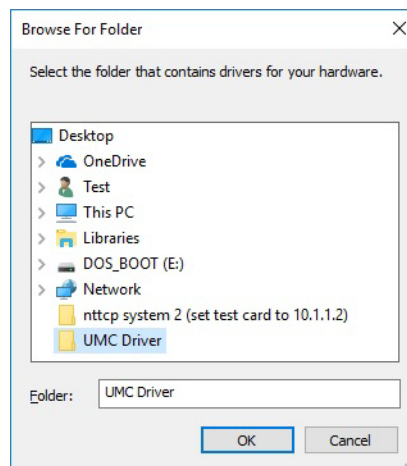

Figure 12. Browse for Folder
6. Click the Browse button to find the folder containing the drivers. The “Browse for Folder” window opens. See Figure 12.